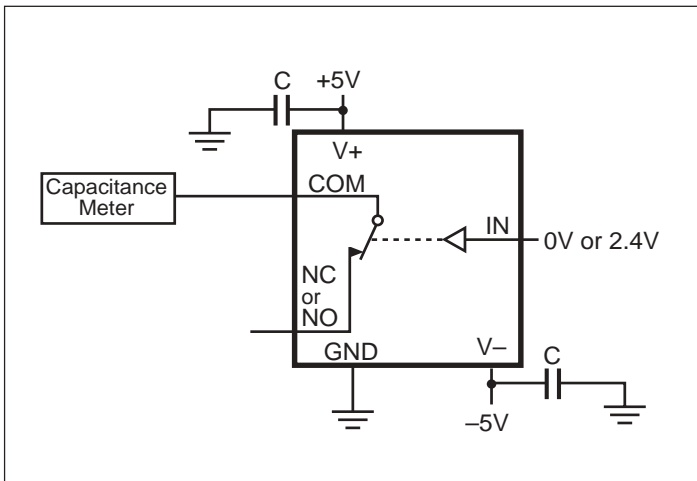

Figure 3. Channel Off Capacitance
7. Between any two switches. See Figure 3.